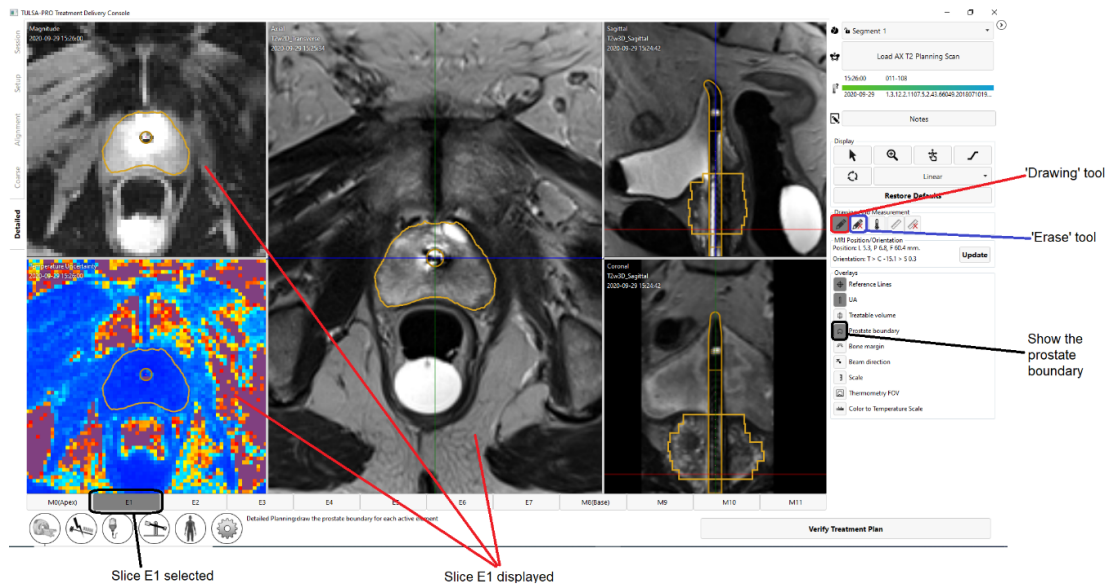

Figure 37: Detailed Planning after drawing boundaries
2. To draw the prostate boundary, select the drawing tool and outline the tissue to be ablated on each slice based on the corresponding AX T2 and THERM magnitude images (Figure 37). You can select individual slices by clicking on the numbered tab at the bottom of the screen or by pressing the left and right arrow keys on the keyboard. Use the sagittal and coronal views of the SAG T2 images to verify the intended ablation zone in three dimensions.